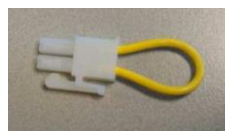

FIGURE 11.3 BRIDGING PLUG
6. Fit the bridging plug (**Figure 11.3**) to the transition socket.